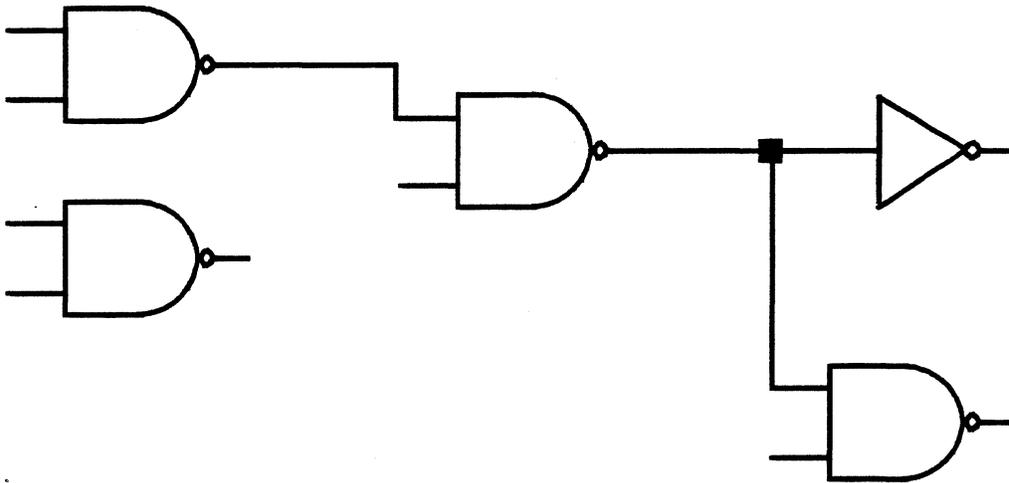

Figure 2.19
- 4) When you finish drawing the net path, activate the Create Connection Path Menu. The Create Connection Path Menu gives you three options: **Apply Create/Merge**, **Abort Create/Merge**, and **Forget Last Bend**. Select **Apply Create/Merge** to apply net. If you apply the net before you connect two symbols or a symbol and a net, the system completes the net to the point marked by the small box (figure 2.19). Select **Abort Create/Merge** to abort the net.